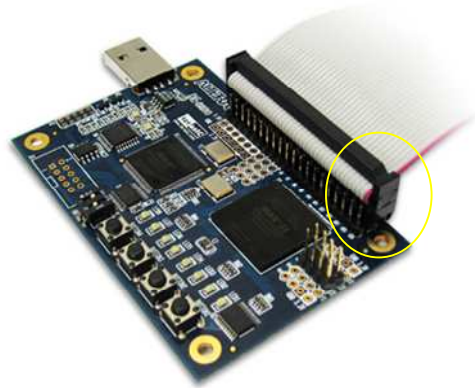

Figure 4.6. The connection setup for the 40-pin cable with MAX II Micro board.
2. Please NOTE the orientation of the 40-pin cable when connecting the DIP 40-pin male connector on the PROT_A, as shown in Figure 4.6.